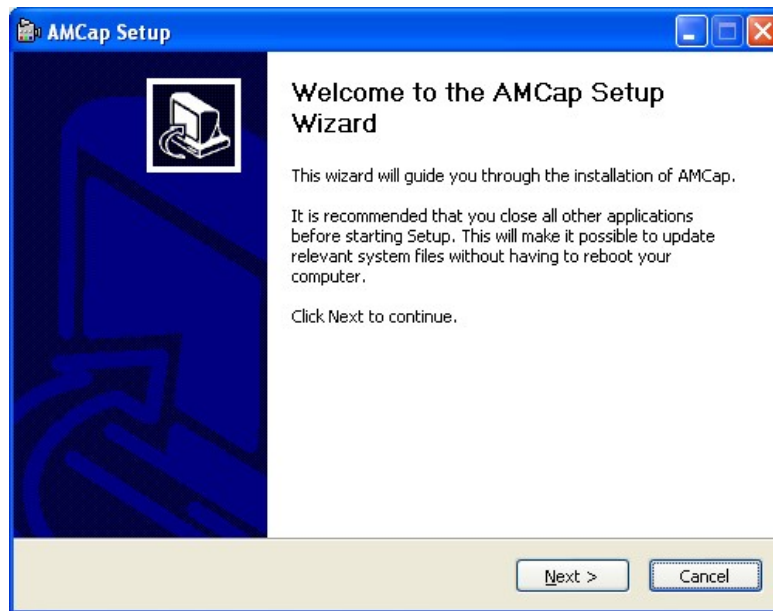

Figure 7-27: AMCap Driver Welcome Screen
Step 4: The **Welcome Screen** in **Figure 7-27** appears.